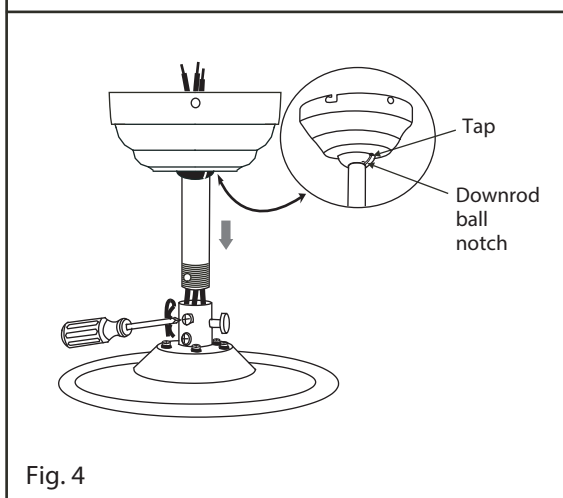

Fig. 4
4. Feed motor lead wires through downrod/canopy assembly and insert downrod into motor yoke. Make sure that the tab in the canopy engages the notch in the downrod ball. Install downrod to fan using instructions provided with your fan as this may vary from model to model. (Fig. 4)